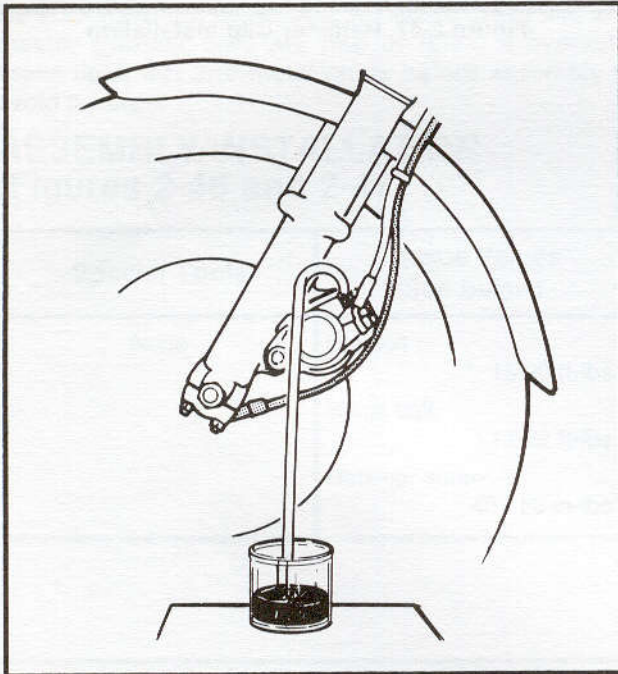

Figure 2-49. Bleeding Brakes
2. From wheel side of brake disc, slide one brake pad (4) over pad shims (3). Slide second brake pad over pad shims (3) from saddlebag carrier side. Insert retainer clip (13) in holes in mounting bracket (1) and bring clip over the top of outer pad (4) as shown in Figure 2-49.
1. See Figure 2-49. Slip a length of appropriate size clear plastic tubing over wheel cylinder bleeder valve with other end in a clean container. Turn handlebars so that bleeder valve is nearly vertical.